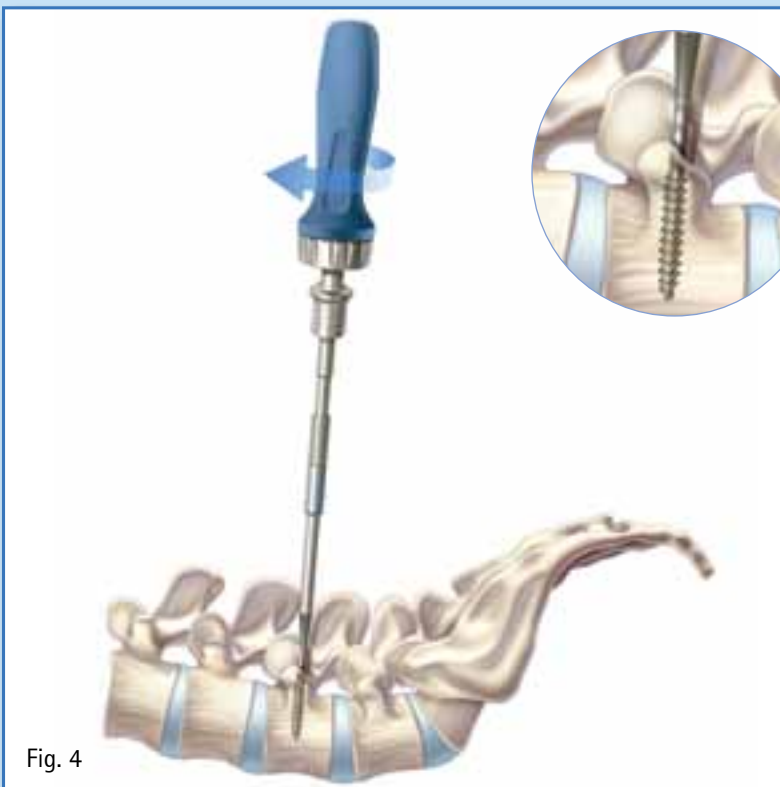

Fig. 4
- To tap, attach the straight ratchet handle or the T-handle (FW165R or FW167R) to the appropriate tap based on the screw diameter. **Refer to page 28 for a complete list of taps sizes.** (Fig. 4)